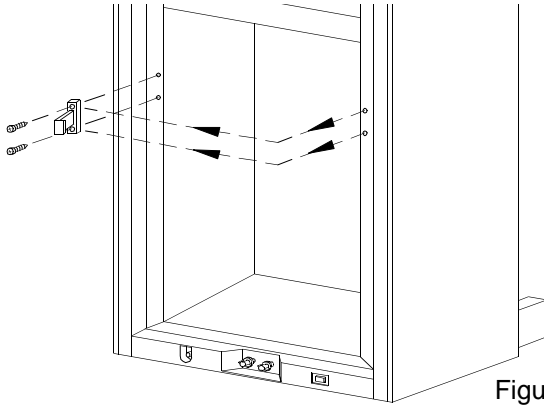

Figure 9
8. Remove both travel latches by taking out the two screws holding each to the refrigerator. Use the #2 Phillips screwdriver. Remove the two screws from each of the corresponding holes on the opposite side of the refrigerator. Relocate them in the two holes just exposed by the removal of the latches. Attach each latch in the new position so the tab points towards the opposite side of the refrigerator. Do not tighten screws completely. (See Figure 9)